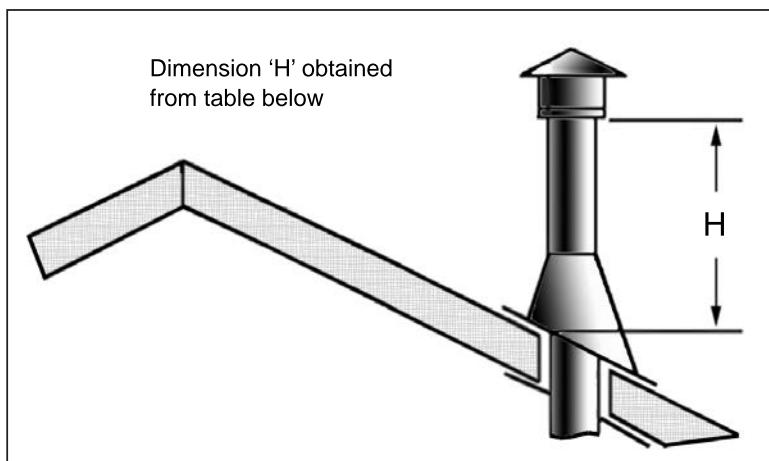

Figure 71: Height of Vertical Termination; Reference Table 9
Step 4. Measure roof pitch. Select the proper flashing and storm collar and determine the height above the roof (see Figure 71). A non-corrosive pipe material must be used for all exterior pipe lengths. Seal nail heads with silicone.
Table 9: Minimum 'H' for Figure 71.